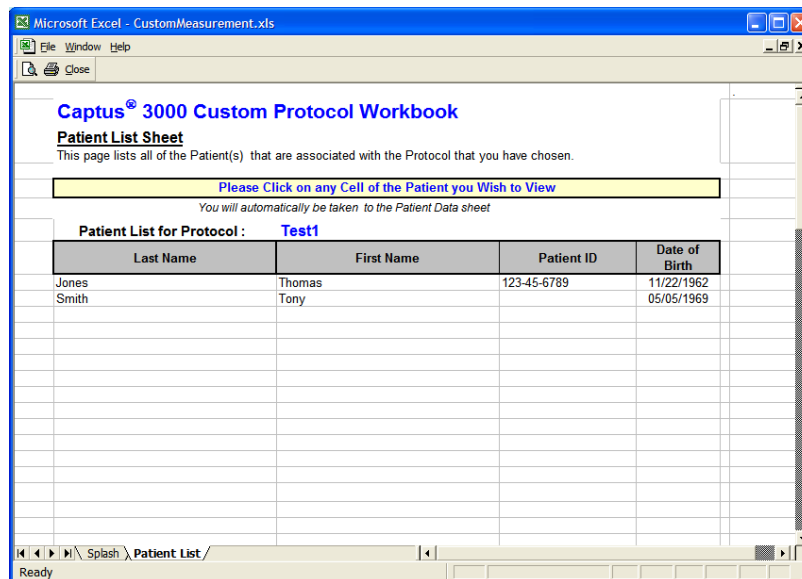

Figure 16-37
3. The Patient list will be displayed (Figure 16-37).